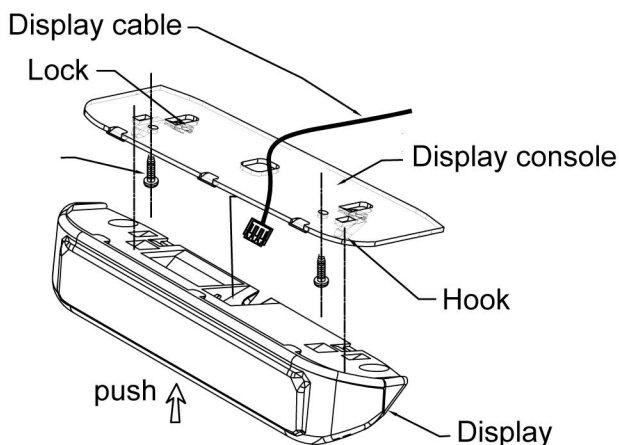
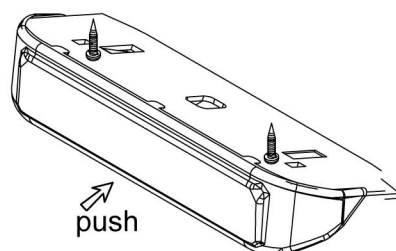

Figure 3.1
Figure 3.2
1. Attach display console with double-sided adhesive tape. See Fig 3.1
4. Then push the display gently (see fig. 3.2) until it is fixed.
5. To pull the display out of console, push the latch (see fig. 3.1) and pull it gently (see fig. 3.2).